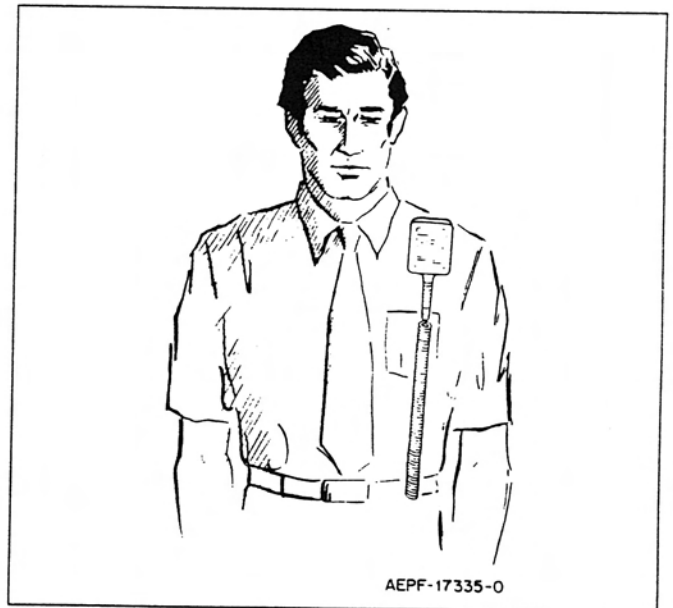

Figure 1.
- Insert the tab on the microphone's accessory connector (item 25) into the slot in the radio's universal connector.
- Slide the accessory bracket (item 26) down over the radio's antenna bushing nut.
- Insert the antenna adapter (item 4) into the threaded hole in the antenna bushing nut, and tighten it firmly (recommended torque is 10 in. lb.).
- The microphone will perform best if it is worn as shown in Figure 1.